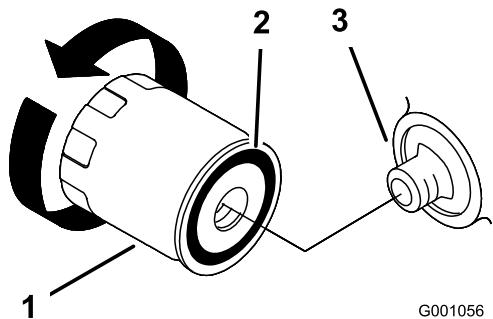

Figure 48
7. Remove the old filter (Figure 47 and Figure 48) and wipe the surface of the filter adapter gasket.